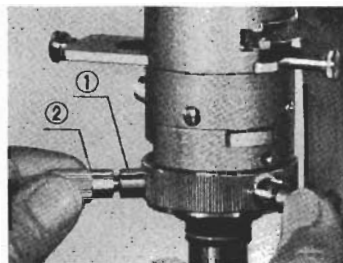

Fig. 2
2. Open the upper packing in the direction indicated by the arrow. (Fig. 2)
1. Attach two centering knobs ② to the centering screws ① of the objective mounts. (Fig. 2)